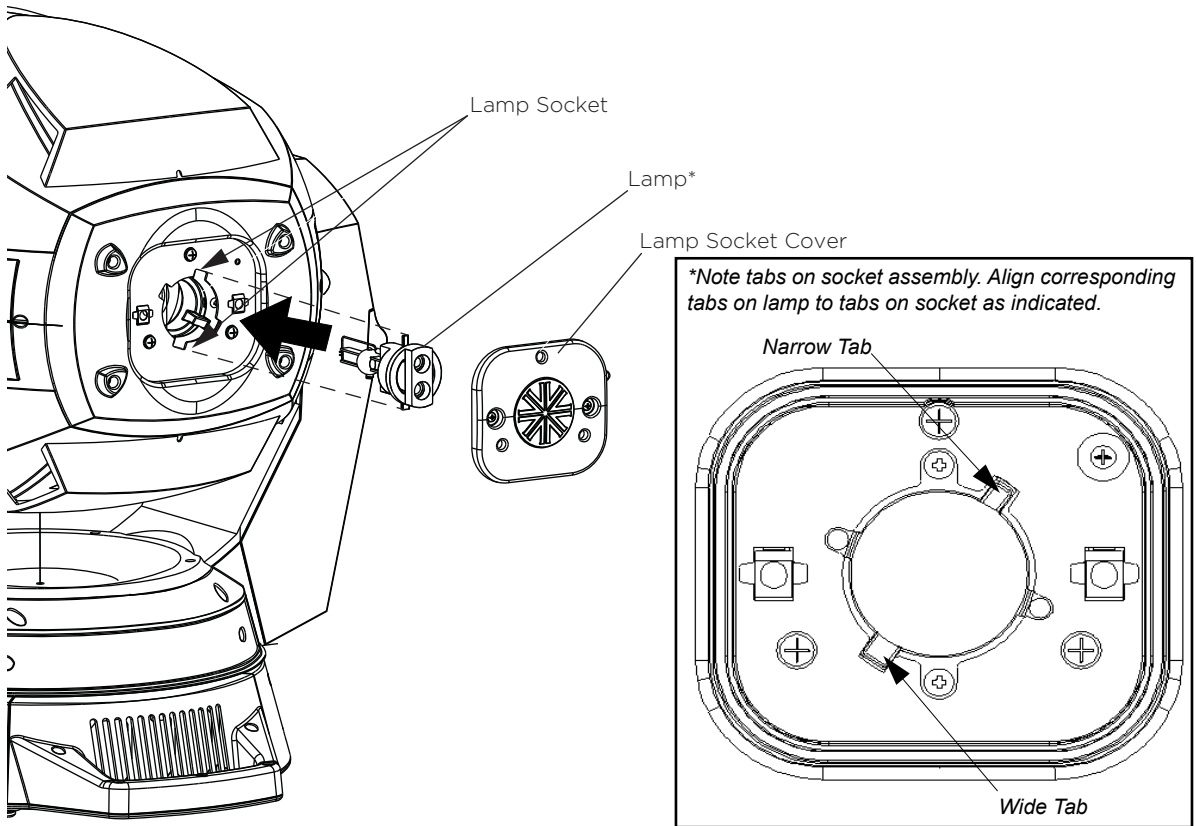

FIGURE 5: LAMP INSTALLATION
Step 6. As shown in Figure 5, align lamp tabs with lamp socket.